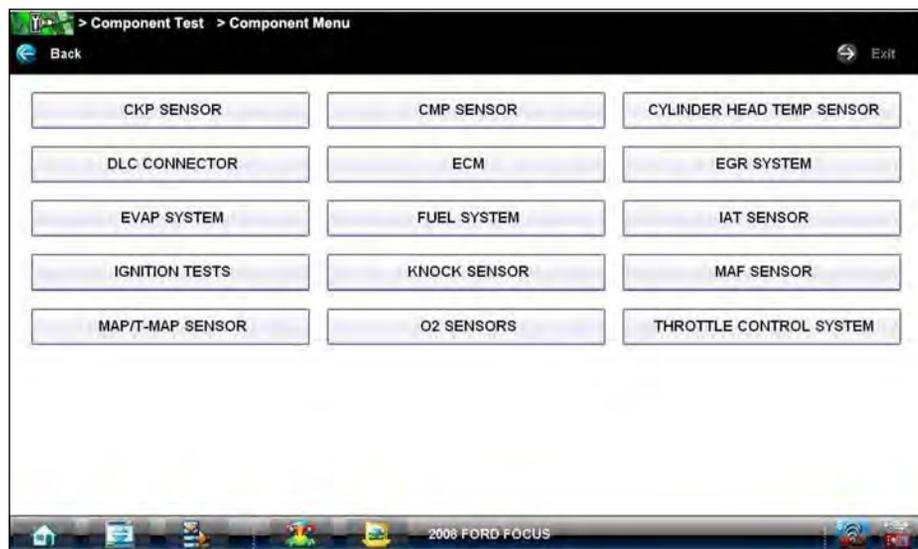

Figure 7-3 Sample available tests list
8. From the confirmation dialog box, select **OK** to continue, or **Cancel** to return to the engine list. A list of tests available for the identified vehicle displays (Figure 7-3).